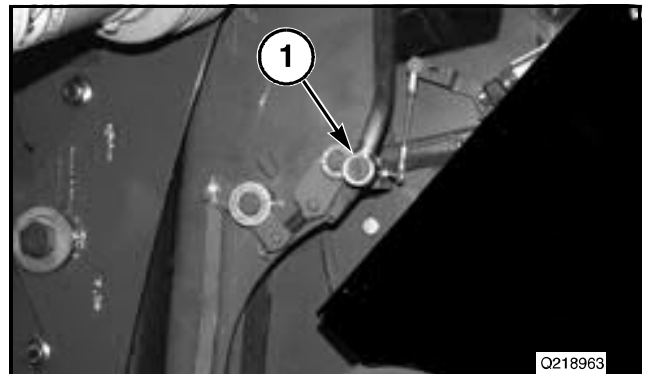

FIG. 11
FIG. 11: Install the socket of the tool over the hex stub (1) of the feed house latch linkage. Move the concave door tool rearward to unlock the feed house hooks from the header.